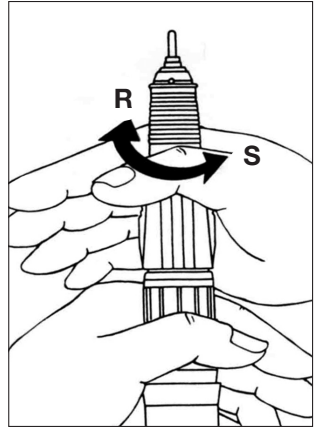

Fig. 5
A tight collet can be loosened by placing the wrench over the collet and tapping the wrench with a solid tool. (Fig. 5)
1. Turn the Collet Release Mechanism to the “S” position (Fig. 5).